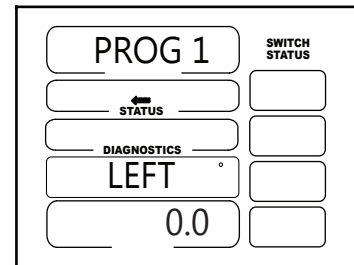

Figure 18-2
- b) Press  to turn on the reverse icon and turn the forward icon off. This indicates the program will execute in that direction only. See figure 18-2.